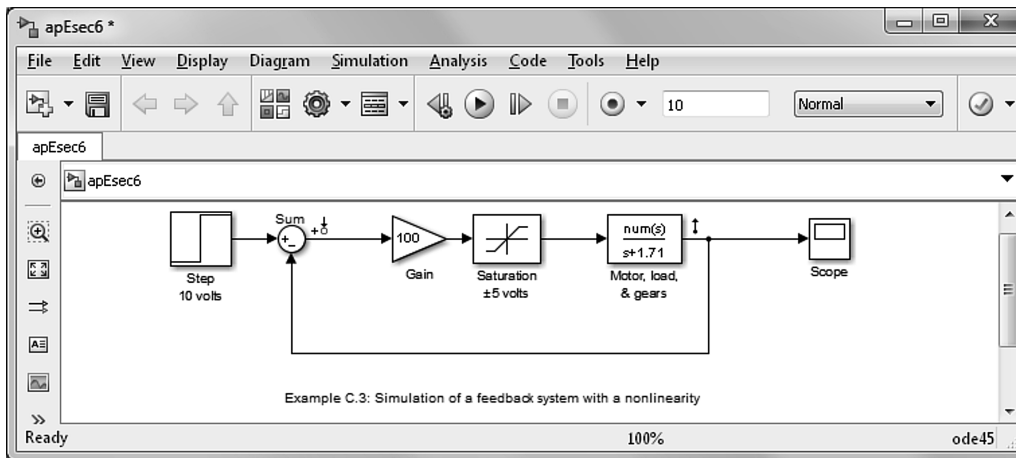

FIGURE E.7 Simulink model window showing **Input Perturbation** point and **Output Measurement** point
1. **Access a Simulink Model** Start with your Simulink model window shown in Figure E.7
Measurement on the drop-down menu. The input and output points are shown on the Simulink model of Figure E.7.